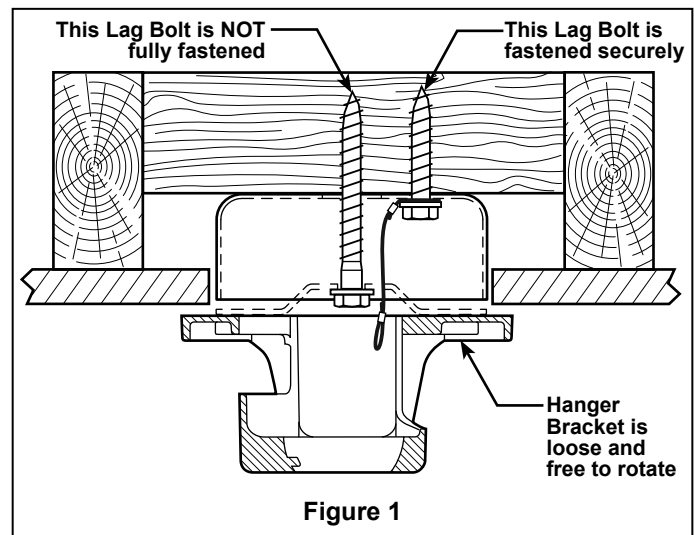

Figure 1
3. Separate and untwist the three motor leads and safety cable. Route the motor leads and safety cable through the bottom end of the extension pole as shown (Figure 1).
1. **Attaching Ceiling Support Cable (Figure 1):** Drill $\frac{1}{4}$ " pilot hole through one of the four corners of the junction box, into the ceiling joist or structural member. Securely attach the ceiling support cable with $\frac{3}{8}$ " x 2" lag bolt and flat washer.
NOTE: Ceiling support cable must be fastened between flat washer and junction box with 2" lag bolt (Figure 1).
2. **Preliminary Hanger Bracket Attachment (Figure 1):** Drill $\frac{1}{4}$ " pilot hole through the center of the junction box, into the ceiling joist or structural member. Loosely attach hanger bracket to the ceiling structure using $\frac{3}{8}$ " x 5" lag bolt and flat washer. **DO NOT FULLY TIGHTEN THE LAG BOLT YET!** Hanger Bracket should be free to rotate.